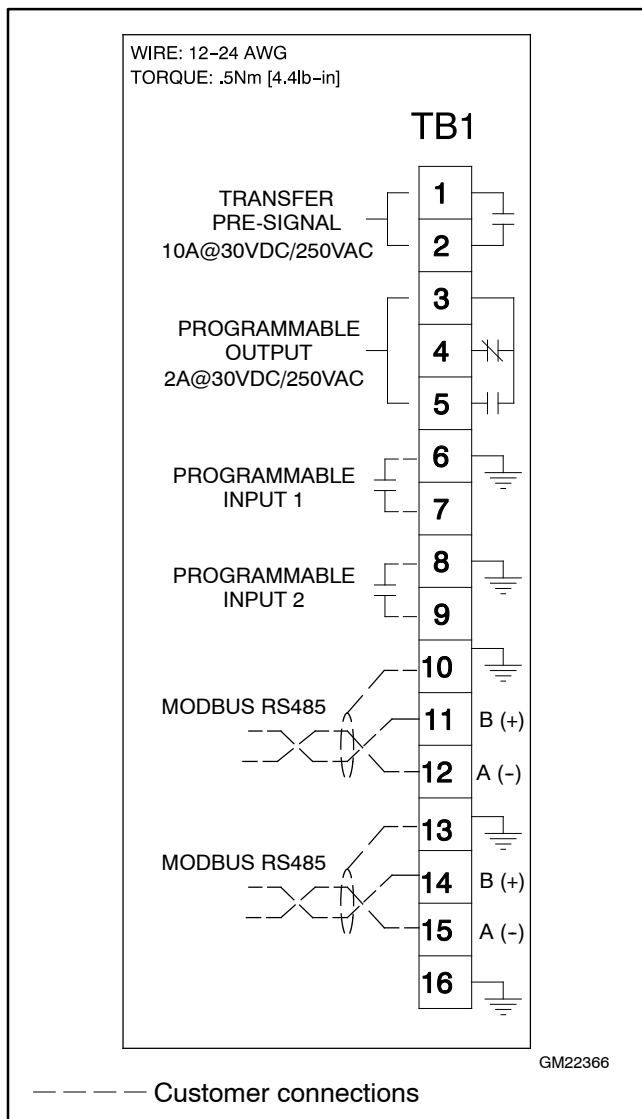

Figure 9-3 Terminal Strip TB1 Connections
3. Connect the Modbus® input and output to the terminals shown in Figure 9-3. Use #12-24 AWG twisted-pair shielded cable; Belden cable #9841 or equivalent is recommended. Connect A to negative (-), B to positive (+), and the shield to ground as shown in Figure 9-3.